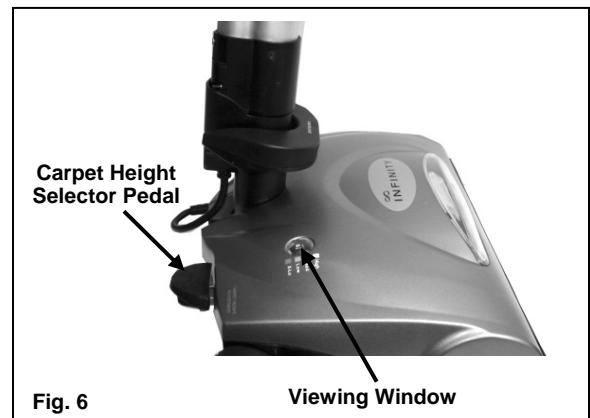

Fig. 6
2. To adjust the carpet height of the agitator, step on the carpet height selector that is in the back of the power nozzle. (Fig. 6)
3. There are four (4) different carpet heights. Each time the carpet height selector pedal is depressed, the carpet height selector window will change colors. (Fig. 6)